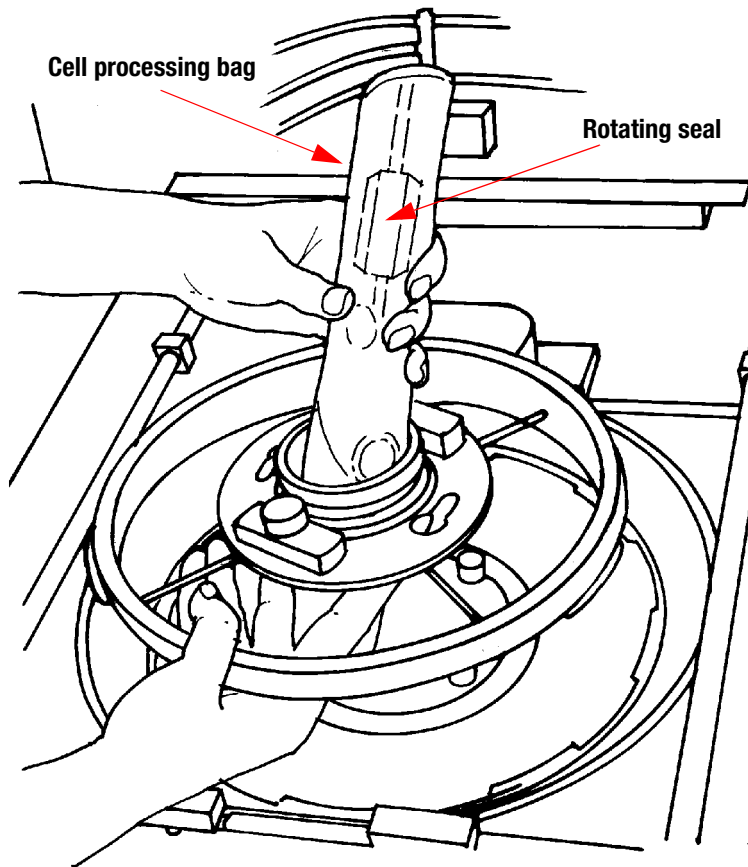

Figure 6-6: Passing the cell processing bag through the centrifuge bowl cover's center hole
- 21 Roll the cell processing bag around the hexagonal-shaped rotating seal and pass it through the center hole of the centrifuge bowl cover (Figure 6-6).